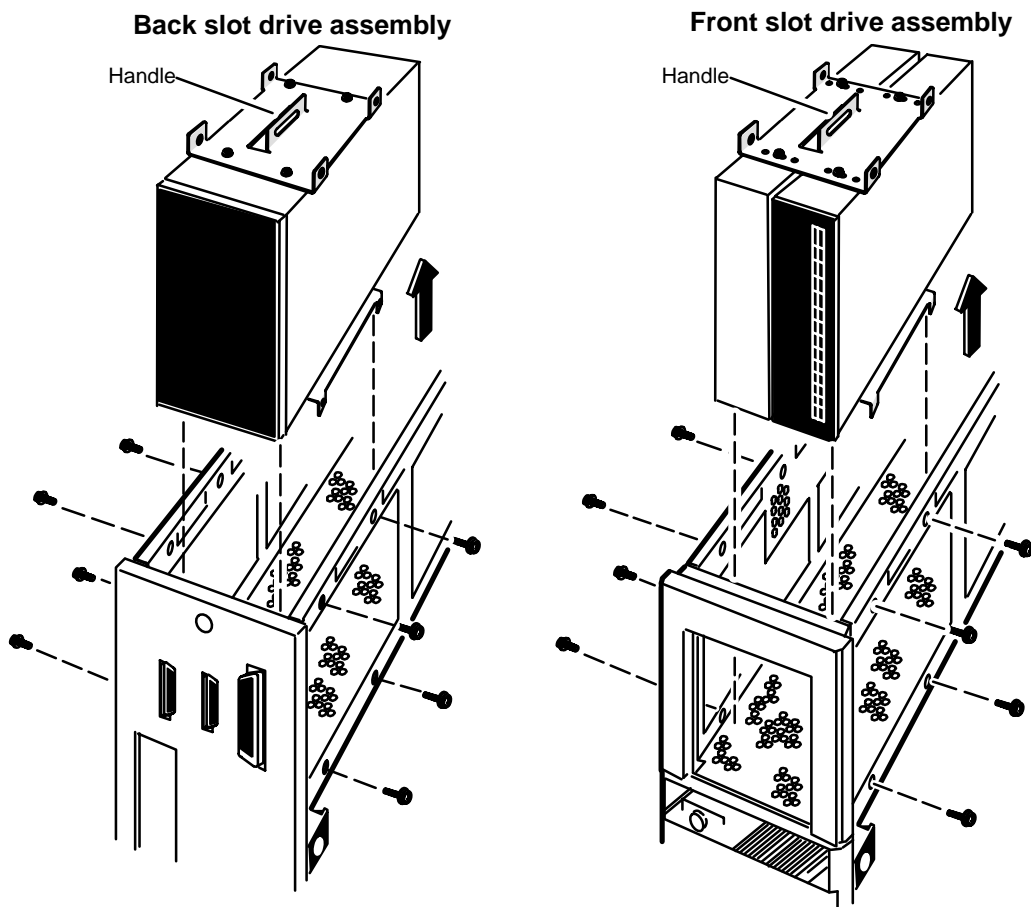

Figure 7-5 Removing a Drive Assembly from the Computer Unit
4. Remove the eight screws and washers securing the drive assembly to the computer unit as shown in Figure 7-5.